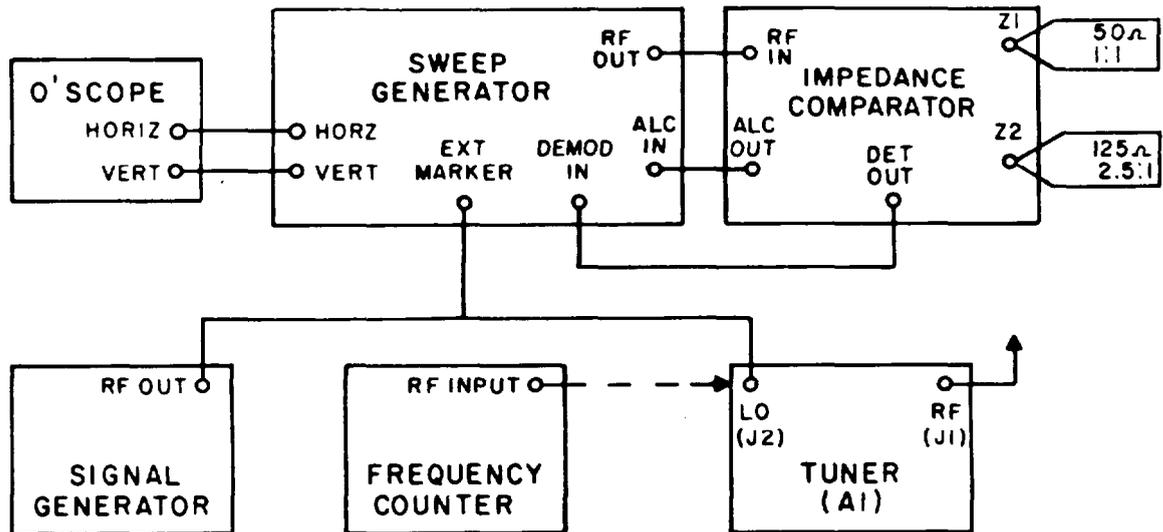

Figure 4-10. Test Setup, Tuner VSWR Alignment Circuit
- (1) Connect the equipment as shown in Figure 4-10.